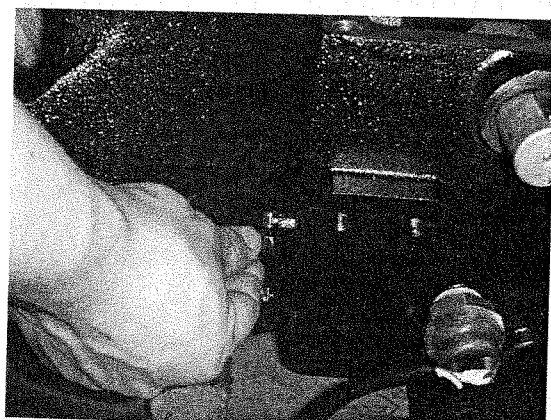
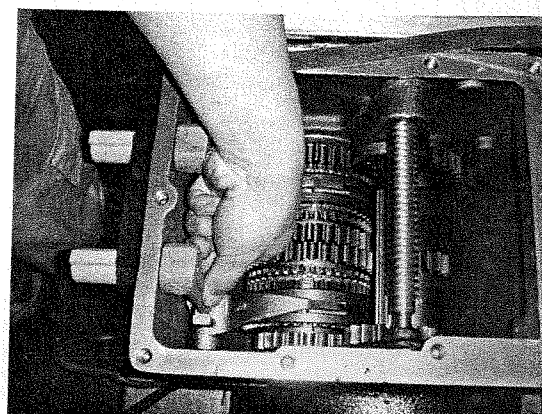

Fig 2-23
Fig 2-24
(3) Assemble the shaft arm properly (Fig 2-23). At this point attention shall be paid to the position of gear shift lever (Fig 2-24).